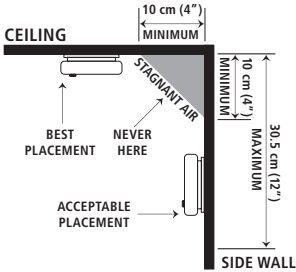

FIGURE 2A
- When mounting an alarm on the ceiling, locate it at a minimum of 10 cm (4") from the side wall (Figure 2A).
- When mounting the alarm on the wall, use an inside wall with the top edge of the alarm at a minimum of 10 cm (4") and a maximum of 30.5 cm (12") below the ceiling (Figure 2A).
Modern mobile homes have been designed to be energy efficient. Install smoke alarms as recommended in Figure 2A.
In older mobile homes that are not well insulated compared to present standards, extreme heat or cold can be transferred from the outside to the inside through poorly insulated walls and roof. This may create a thermal barrier that can prevent the smoke from reaching an alarm mounted on the ceiling. In such units, install the smoke alarm on an inside wall with the top edge of the alarm at a minimum of 10 cm (4") and a maximum of 30.5 cm (12") below the ceiling (Figure 2A).